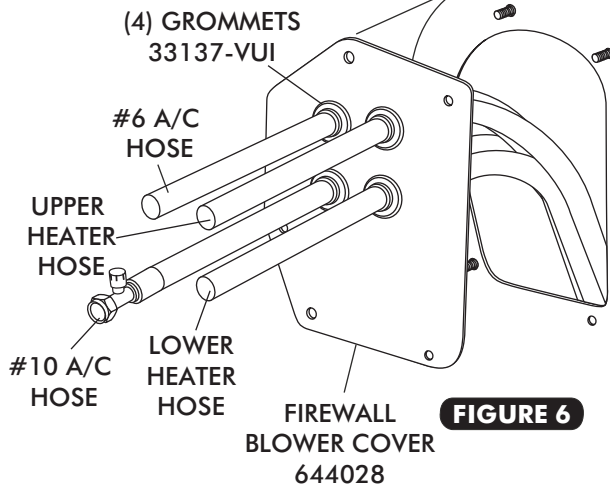

FIGURE 6
- ❑ ROUTE A/C AND HEATER HOSE THROUGH FIREWALL BLOWER COVER AND KICK PANEL COVER AS SHOWN IN FIGURE 6 AND 6b, BELOW.